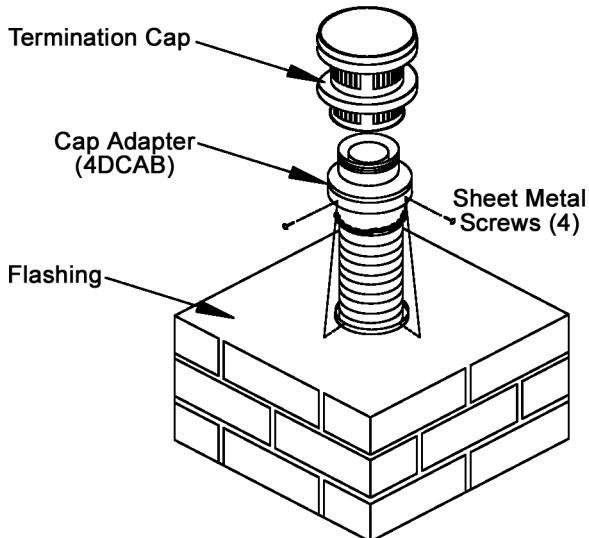

Figure 18
15. Position the cap adapter (with all the attachments) over the flashing, and screw (4) into the lip of the flashing from the outside sleeve of the cap adapter. See Figure 18.
16. Attach your direct vent termination cap to the cap adapter. See Figure 18.